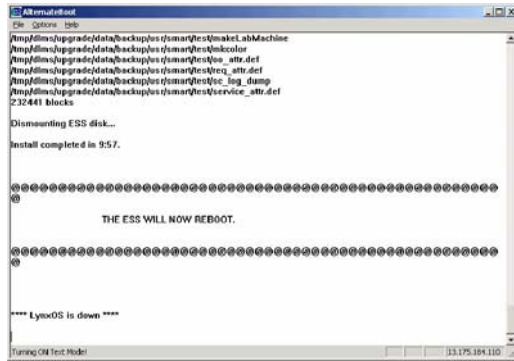

Figure 19 Installing File and Rebooting
- d. Install File and reboot (Figure 19).